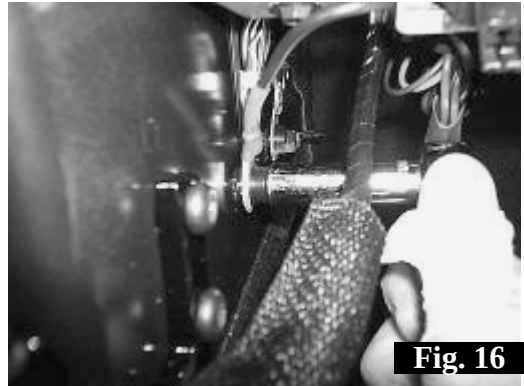

Fig. 16
26. Using a 10mm socket and ratchet remove one of the factory ground nuts on the driver's side kick area. Connect the black ground wire, reinstall the nut and tighten. Fig. 16. Torque to 8Nm.